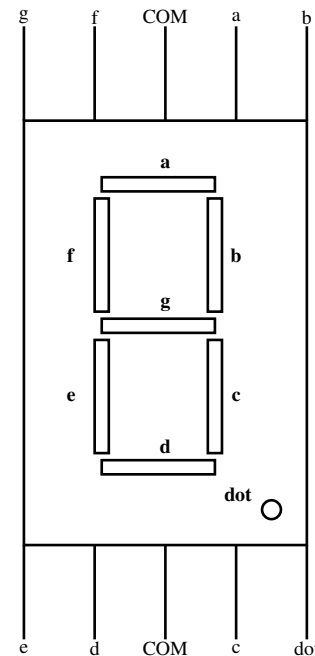

Fig. 2.1
The seven segment display in Fig. 2.1 has eight pins,  $a, b, c, d, e, f, g$  and  $dot$  that take an active LOW input, i.e. the LED will glow only if the input is connected to ground. Each of these pins is connected to an LED segment. The  $dot$  pin is reserved for the  $\cdot$  LED.
**Problem 2.2.** Make the pin connections in Table 2.2 using Figs. 2.1 and 2.2.